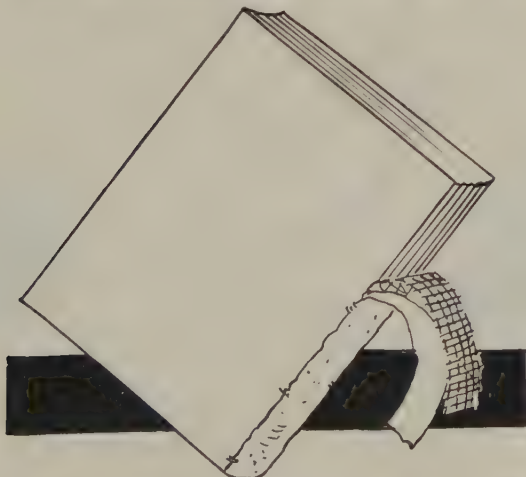

FIG. 157—"PEELING" OLD CRASH AND LINING PAPER FROM BACK OF BOOK
4. Remove the crash and paper from backbone of book by "peeling" it away from back carefully. Thoroughly wetting the back with a sponge saturated with water will help to loosen paper, crash and glue. (Fig. 157.)